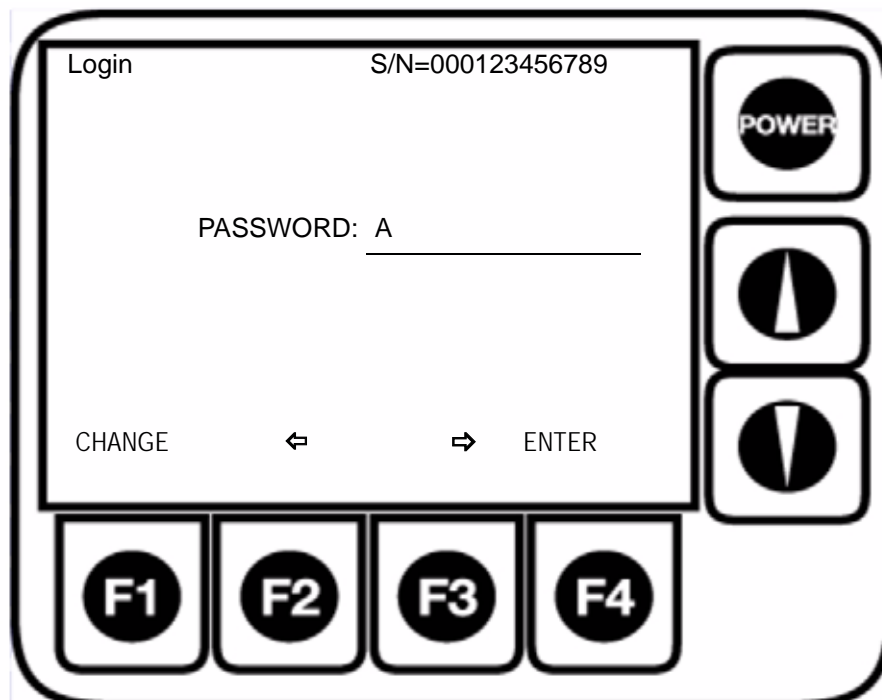

Fig 2-11 : Enter Password Screen
The Enter Password screen displays as shown in Figure 2-11.
The password entry prompt displays as shown in Figure 2-11.
- 1) To change the password, go to the Password Entry menu shown in Figure 2-11. Press the **CHANGE (F1)** key. The New Password screen will appear as shown in Figure 2-14.